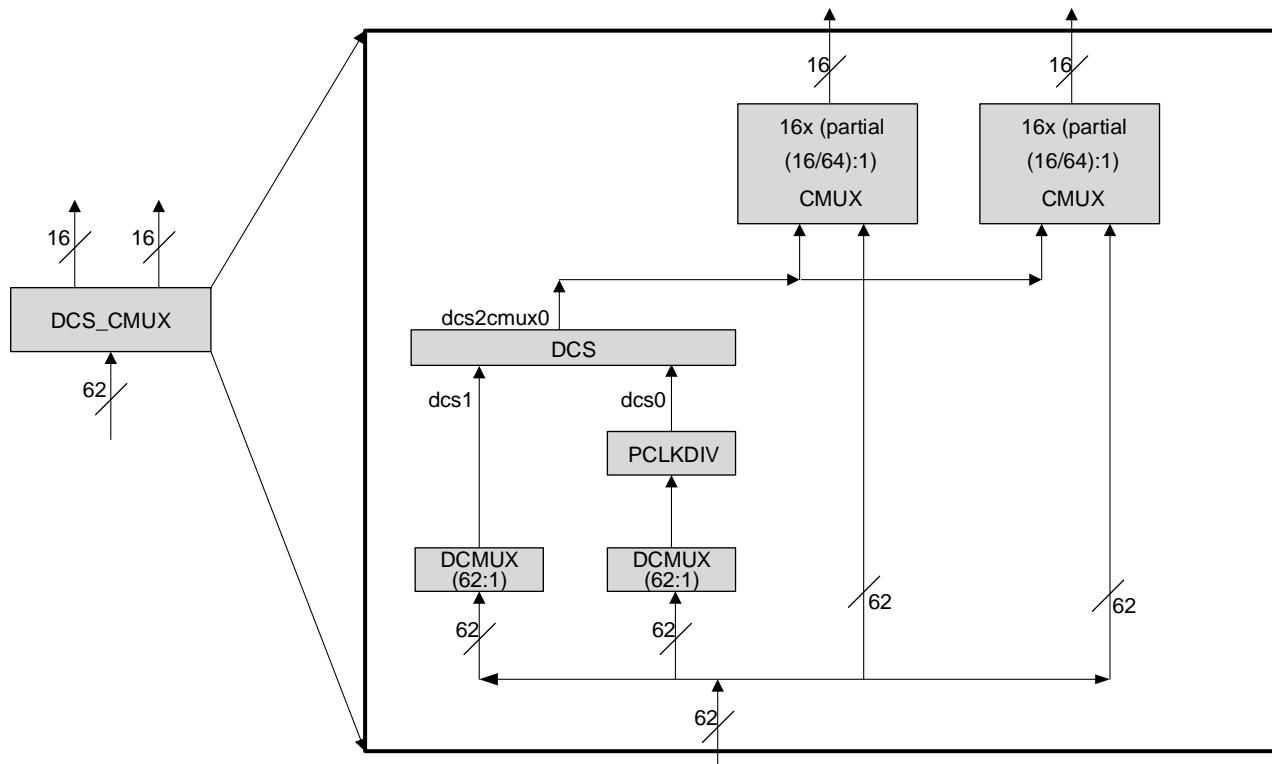

Figure 2.9. DCS_CMUX Diagram
The PCLKDIV supports $\div 2$, $\div 4$, $\div 8$, $\div 16$, $\div 32$, $\div 64$, $\div 128$, and $\div 1$ (bypass) operation. The PCLKDIV is fed from a DCSMUX within the DCS_CMUX block. The clock divider output drives one input of the DCS Dynamic Clock Select within the DCS_CMUX block. The Reset (RST) control signal is asynchronous and forces all outputs to low. The divider output starts at next cycle after the reset is synchronously released. The PCLKDIV is shown in context in Figure 2.9.
All clock sources are selected and combined for primary clock routing through the Dynamic Clock Selector Center Multiplexer logic (DCS_CMUX). There are one (1) or two (2) DCS_CMUX blocks per device. Each DCS_CMUX block contains 2 DCSMUX blocks, 1 PCLKDIV, 1 DCS block, and 1 or 2 CMUX blocks. See Figure 2.9 for a representative DCS_CMUX block diagram.